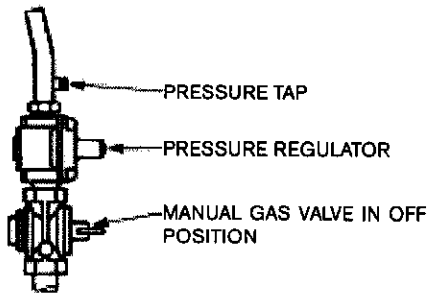

Figure 9
2. The main manual gas valve must be closed (turn valve handle clockwise ) and the gas valve OFF button depressed . See figure 9.
3. Wait five (5) minutes to clear out any gas. If you then smell gas, STOP! Follow "B" in the safety information given above on this plate. If you don't smell gas, go to next step.
1. Depress OFF button  and close the main gas valve by turning handle clockwise to OFF position. See figure 9.
The gas pressure specified below refer to flow pressure taken at the pressure tap in the gas inlet pipe (just above pressure regulator), figure 9, while the heater is operating at full input.